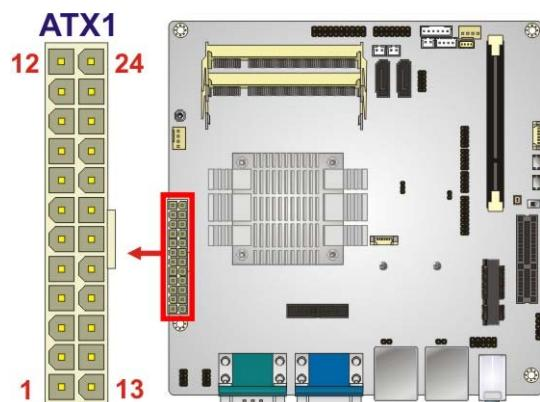

Figure 3-2: ATX Power Connector Location
**CN Location:** See Figure 3-2